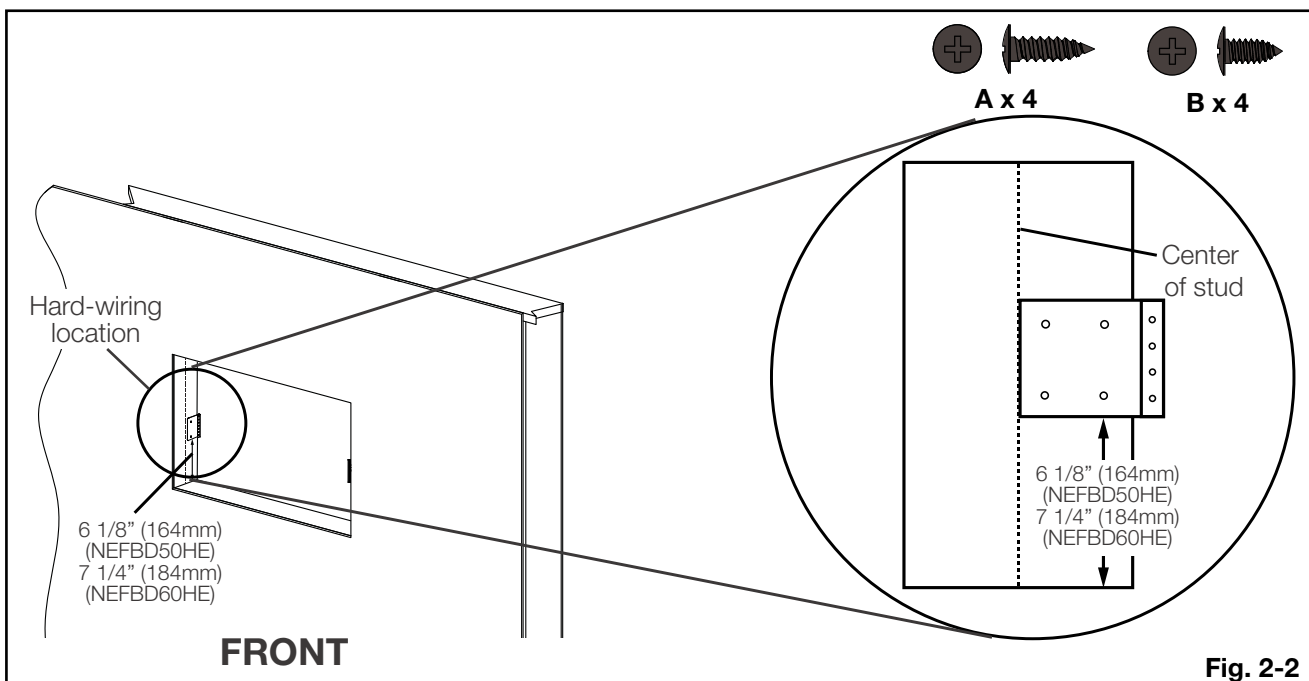

Fig. 2-2
Installation uses 2 mounting brackets in opposite corners. Looking at the stud from the centre of the opening, the brackets will extend out to the right (**Fig. 2-2**).
- F. Mark the centre of the wall depth on the vertical stud and install the mounting brackets by aligning the edge of the bracket with the centre marking. Measure 6 1/8" (164mm) (NEFBD50HE) / 7 1/4" (184mm) (NEFBD60HE) from the bottom of the bracket to the bottom of the opening (**Fig. 2-2**).